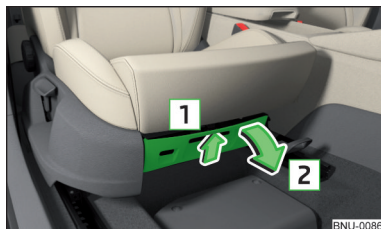

Fig. 117
- To **open**, pull the handle in direction of arrow **1** pull and open the compartment in the direction of arrow **2** » Fig. 117.